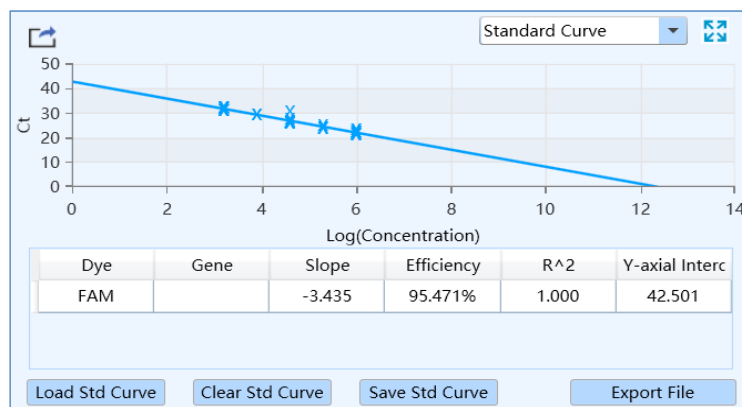

Figure D-9.2. Abs Quant Analysis Interface - Standard Curve Functional Module
**II. Standard Curve**: displays the threshold Ct value against the initial nucleic acid quantity of each standard sample, as shown in figure D-9.2. For absolute quantification, the standard curve is used to assign initial nucleic acid quantities to unknown samples.